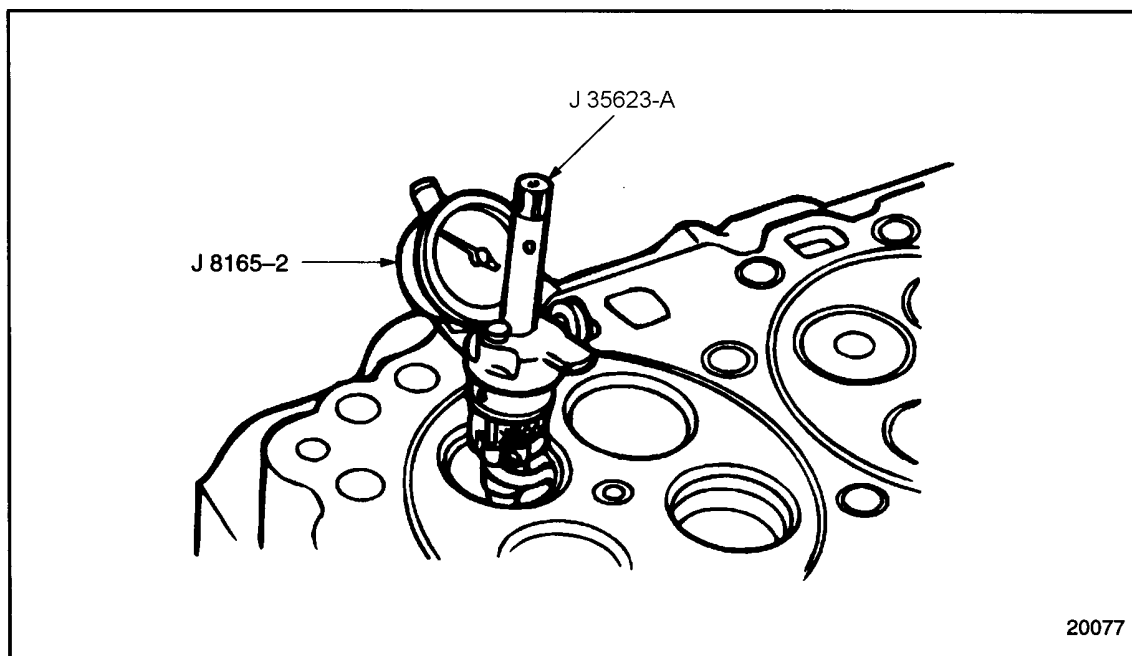

Figure 1-82 Check Valve Seat Concentricity
6. Check the concentricity of valve seat with the valve guide using dial indicator, J 8165-2, and pilot, J 35623-A. See Figure 1-82.